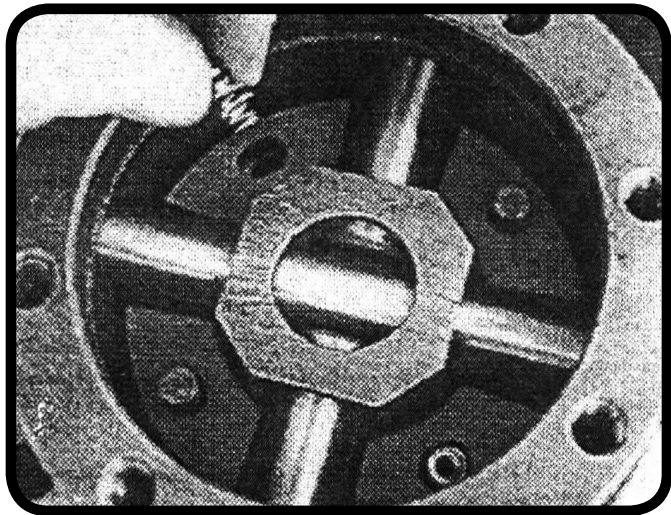

Figure 10
3. Install the pinion shaft block and pinion shafts (see **Figure 10**). Note that the pinion shaft block is not a precision part and that the holes may be drilled off-center such that the block is thicker on one side than on the other. The spacer may tend to bind between that side of the block and its corresponding side gear.
4. Insert a small spring into a large spring and place the assembly into one of the large holes in the bottom driver (**Figure 10**). Repeat for the other hole. The grease placed in the holes earlier will help hold things in place.